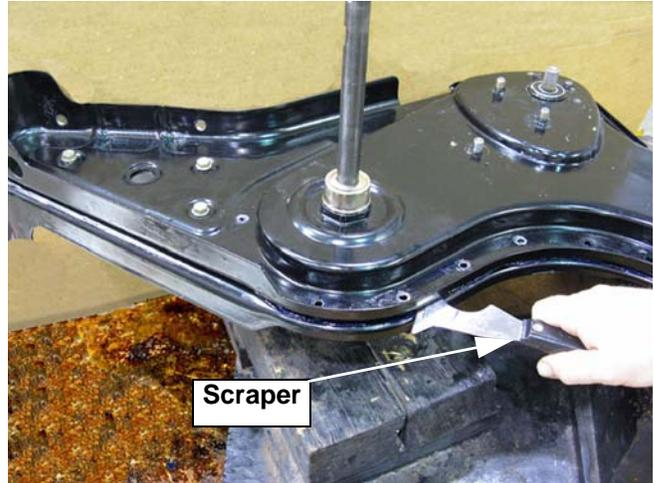

Figure 5.17
17. Insert a putty knife or scraper between the two case halves and work around the perimeter of the gear case until all sealant has been broken free. See Figure 5.17.